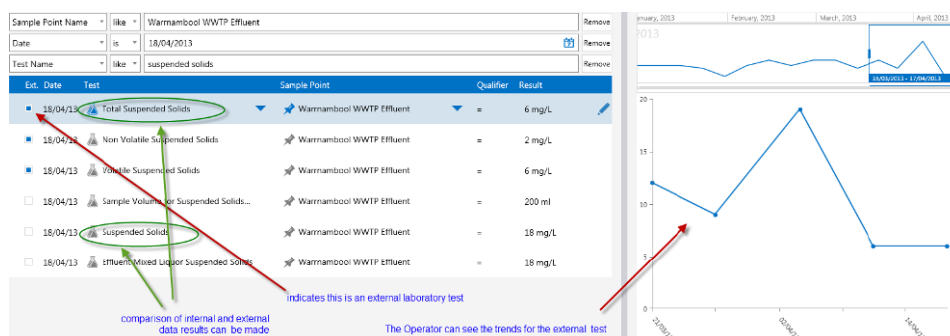

Figure 9: *External laboratory data can be easily identified and comparisons can be made with in-house data*
- Viewing external laboratory data.** Aquantify also houses external laboratory data, which is imported into the system. This allows for comparison of in-house testing results with external laboratory results. External data is easily distinguishable from in-house data by the external “dot” (Figure 9). An operator can filter this data in or out (Figure 10). This data can be easily added into reports if required.